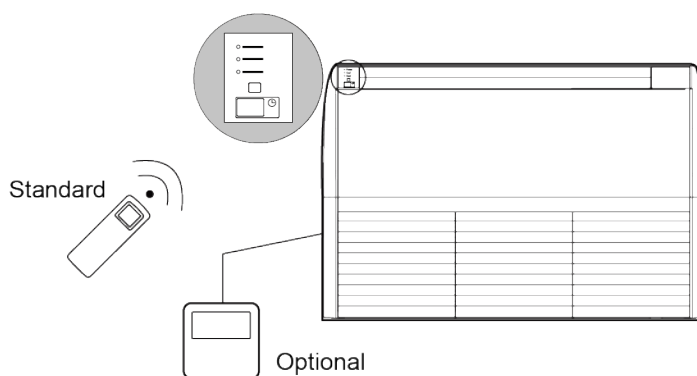

Fig.5.4.2
- (6) Both IDU and wired controller are equipped with signal receiver, and available for remote control respectively (Fig.5.4.2).